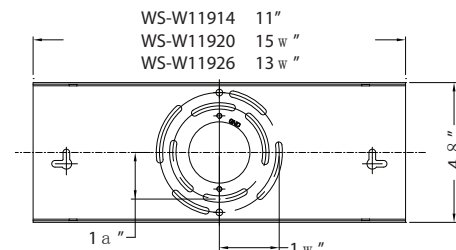
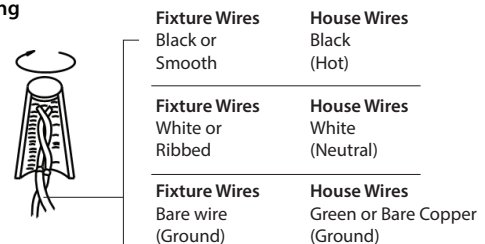

Fig. 2 Wiring
Fig. 3 Sealing
3. Remove the mounting screw (B) and gasket (E) from the fixture.
4. Drill holes in the wall aligned with the key holes located on the back plate, insert the plastic anchor (C).
**CONNECTING THE WIRES (Fig. 2)**
6. Connect the driver's input wires to junction box wires as shown (Fig. 2). Make sure that all wire connectors (A) are secure. If your outlet box has a green or bare copper ground wire, connect the fixture's ground wire to it. Otherwise, connect the fixture's ground wire directly to the back plate using the green screw provided. After wires are connected, tuck them carefully inside the junction box.
8. Secure the fixture to the mounting back plate using the mounting screw (B) and the rubber gasket (E).
9. To prevent moisture from entering the outlet box and causing a short, use clear caulking (i.e. indoor/outdoor silicone sealant) to outline the outside of fixture back plate where it meets the wall. Leave a space at the bottom to allow moisture to escape (Fig. 3).